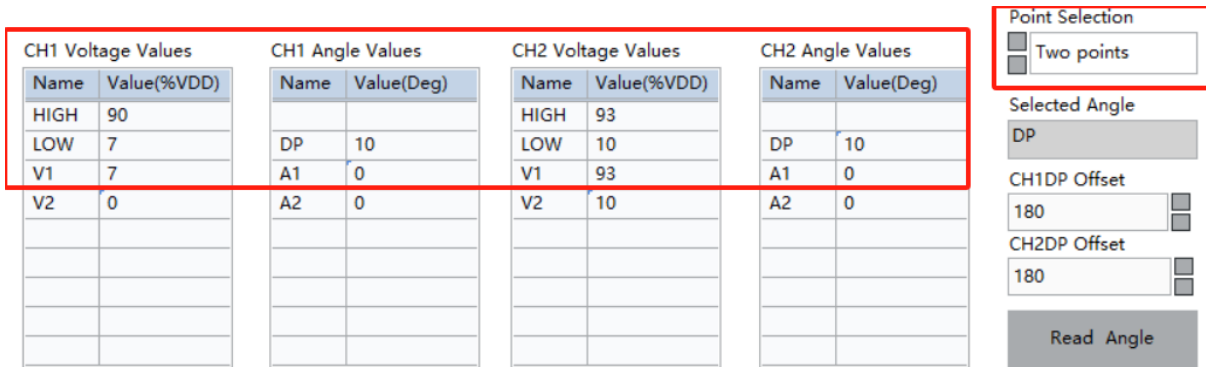

Figure 5.2.10 Select two point programming and fill in the fixed parameters
- Fill in the above parameters into the corresponding parameter fields. 'HIGH', 'LOW', 'V1', 'V2', and 'DP' are fixed parameters that remain unchanged during repeated programming. 'A1' and 'A2' parameters are manually controlled and represent the current actual angle values of the chip (Figure 5.2.10).